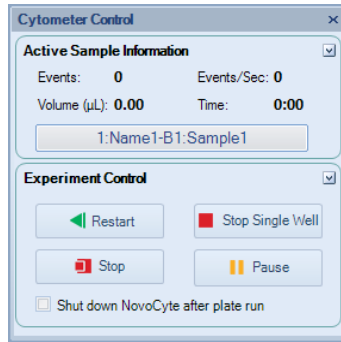

Figure 3-14 The Cytometer Control Panel after Automated Sample Acquisition Started
-  To pause automated sample acquisition, click **Pause** button (Figure 3-14) in the **Experiment Control** panel. The **Pause** button then changes to a **Resume** button. The automated sample acquisition will be paused after current sample acquisition is completed. To stop current sample acquisition immediately, click **Stop Single Well** button in the **Experiment Control** panel. To resume automated sample acquisition, click **Resume** button. In this case, the **Select well(s) to run** window will not prompt. The software will automatically continue to run the rest wells in the experiment. To stop automated sample acquisition, click **Stop** button.